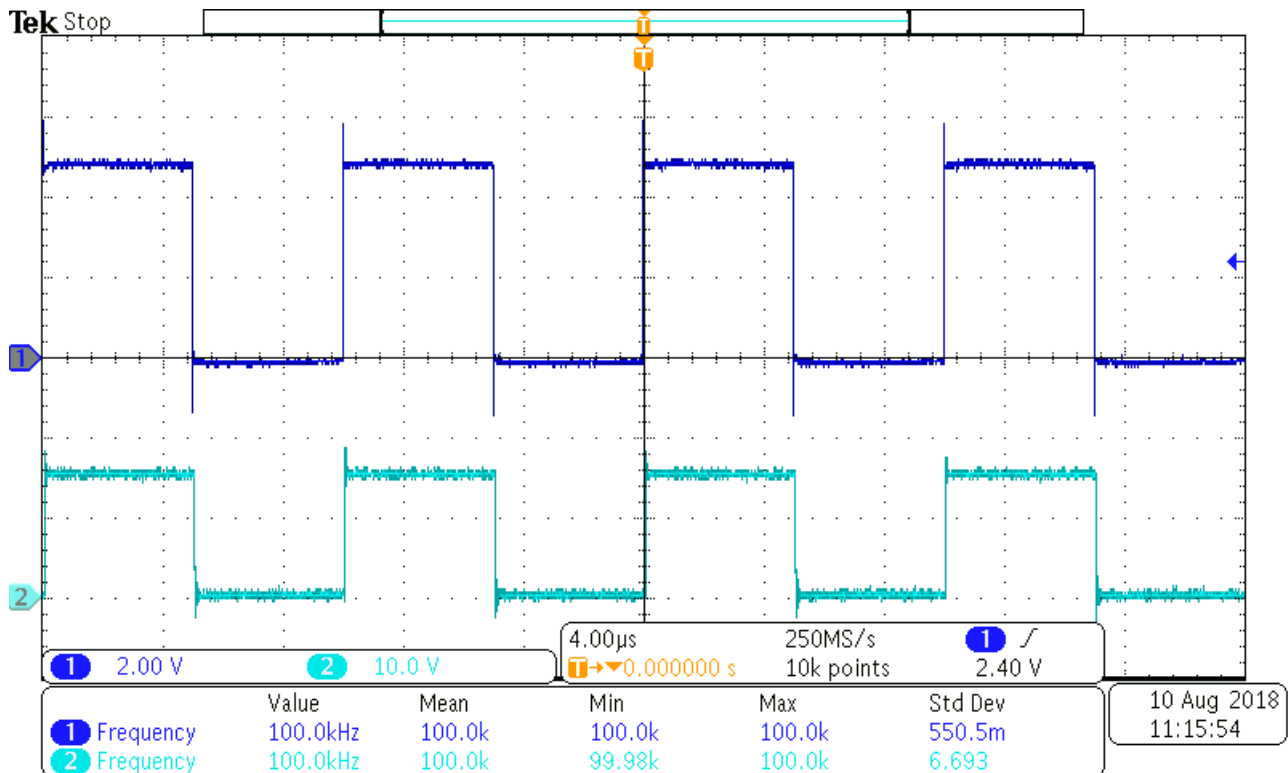

Figure 3. Example Input and Output Waveforms (Ch1 is PWM Input, Ch2 is outputs)
1. Before proceeding to the power up procedure, please make sure that Section 4.3.6 is implemented for setting up all the equipment. Figure 3 could be used as reference;
1. Stable pulse output on the channel-A and channel-B in the oscilloscope, refer to Figure 3;